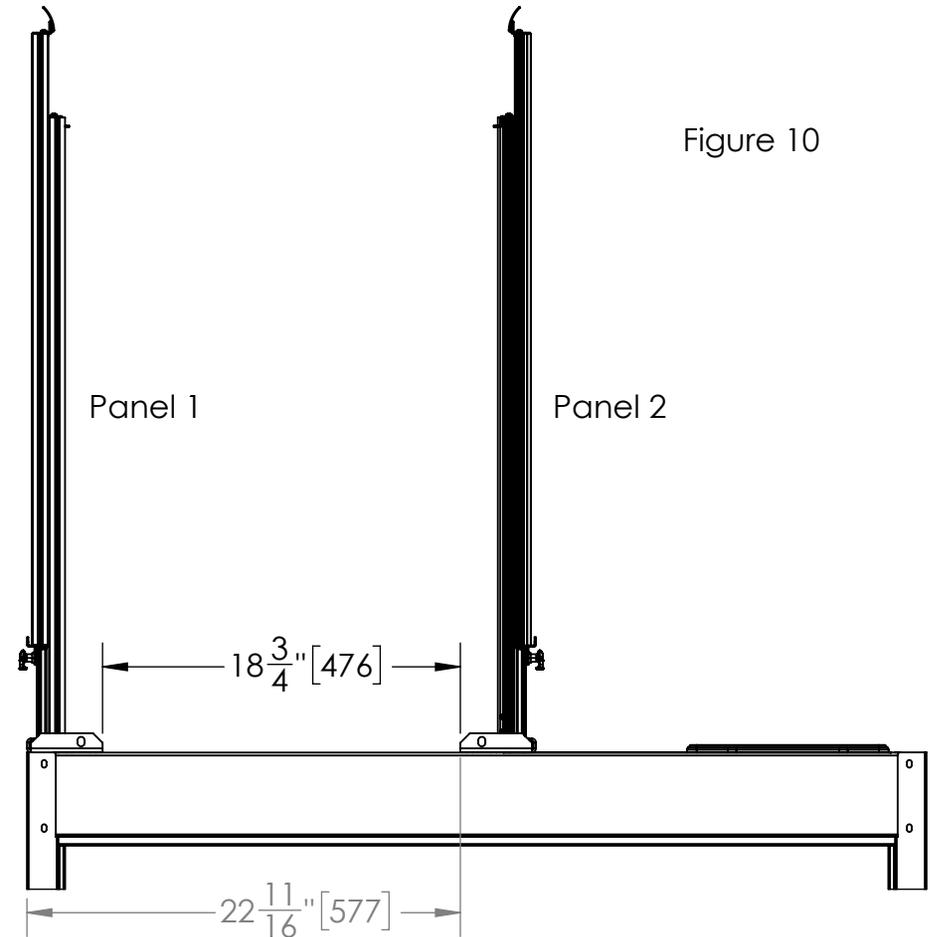

Figure 10
2. Install Panel 2 with lower flange oriented opposite first panel and spaced as shown in Figure 10. Note: End exhaust duct will not mount or seal correctly if this panel is not installed as shown.